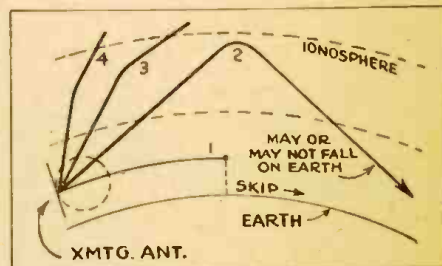

Fig. 4(d).—As the frequency increases, the higher-angle rays penetrate the Heavyside Layer, and those that return may miss the earth.
Let us now consider Figs. 4-A, -B, -C, and -D. We have shown in each a restricted cross-section of the Earth's surface, as represented by the long, curved lines, and the overlying Ionosphere, as represented between the two long, curved, broken lines. We also have our vertical antenna, as in Fig. 3, emanating 4 typical waves—the ground wave (1), and the low (2), medium (3), and high (4) angle waves.
In Fig. 4-A, the wavelength is very long (low frequency) as in commercial broadcast stations; in 4-B and 4-C the wavelength is shorter and shorter until in Fig. 4-D we have represented conditions obtaining at the ultra-short wavelengths, say, something of the order of 5 meters or so.
(1.) For a given wavelength, the *higher* the angle of radiation, the *deeper* it penetrates into the ionosphere, or, otherwise stated—the *harder* it is to reflect. Thus in Fig. 4-A, for example, the high-angle wave (4) penetrates deep into the Ionosphere before it finally gets sent back to Earth. The medium-angle wave (3) is reflected much sooner, while the low-angle wave (2) barely skims the lower level of the layer. Compare this with the other three figures.
(2.) For a given wavelength, the *higher* the angle of a reflected wave, the *closer* to the station it will return to Earth. Low-angle waves give better "DX" than high. In Fig. 4-A, again, we note that the high-angle wave returns to Earth much closer to the station than does the medium (3) wave, while the low-angle wave returns farthest away of all. Compare with the other figures.
(3.) For a given angle of radiation, the *shorter* the wavelength, the *deeper* into the ionosphere it penetrates; or the *shorter* the wavelength of a wave, the *harder* it is to reflect. Let us consider the medium-angle waves (3), for example. In Fig. 4-A, where the wavelength is long, it is easily returned to Earth; in Fig. 4-B (shorter wavelength), it is also returned, but not until it has penetrated much deeper into the Iono-
sphere; in Fig. 4-C, where the wavelength is shorter still, it penetrates to the uppermost reaches of the Ionosphere before finally getting turned back; while in Fig. 4-D, at an ultra-short wavelength, the medium angle wave penetrates the Ionosphere completely and goes on out into space. Observe the behavior of the high (4) and low (2) angle waves in Figs. 4-A, -B, -C, and -D.
(4) For a given angle of radiation, the shorter the wavelength, the farther away from the station it returns to earth. Note the low-angle waves (2) in the figures where, as the wavelength becomes progressively shorter, the distance from the station at which the wave returns to Earth becomes progressively greater.